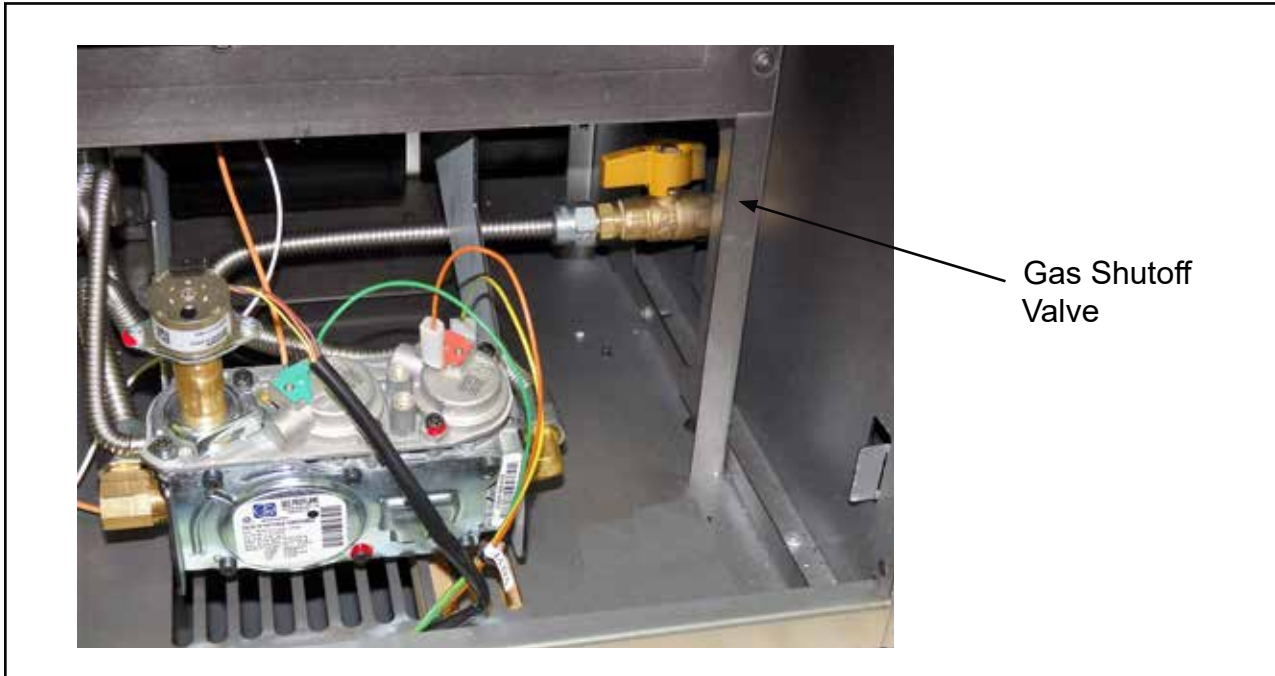

Figure 46: Gas Shutoff Valve.
**Caution:** Turn off the gas supply to the appliance before loosening test port screws. A gas supply shut-off valve is located just below the firebox and to the right hand side of the fireplace. See Figure 46.